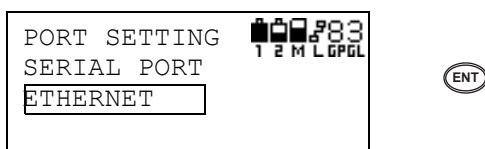

Figure 3-86. Select Ethernet and Press Enter
2. On the Port Setting screen, select ETHERNET and press **ENT** (Figure 3-86).